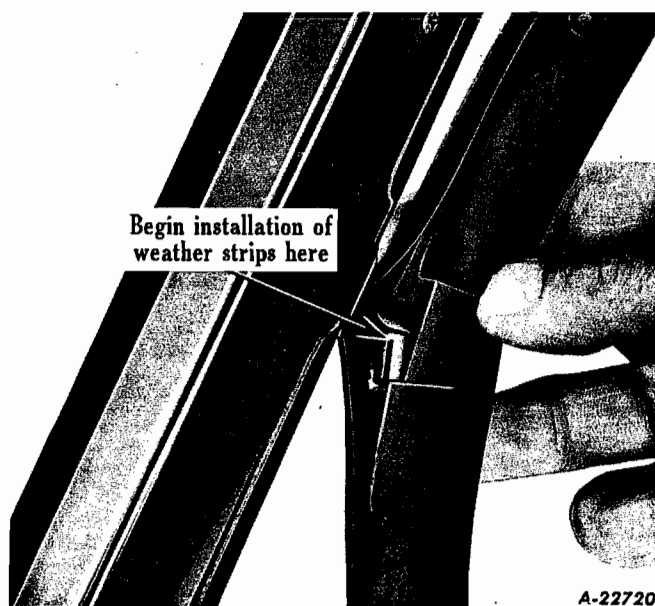

Fig. 34
3. Install door vent glass window weather strip. To facilitate assembling the weather strip the channels engaging the flange opening should be coated with soap solution and installation started at point indicated in Fig. 34. Press weather strip into vent glass window frame to conform to contour of opening.